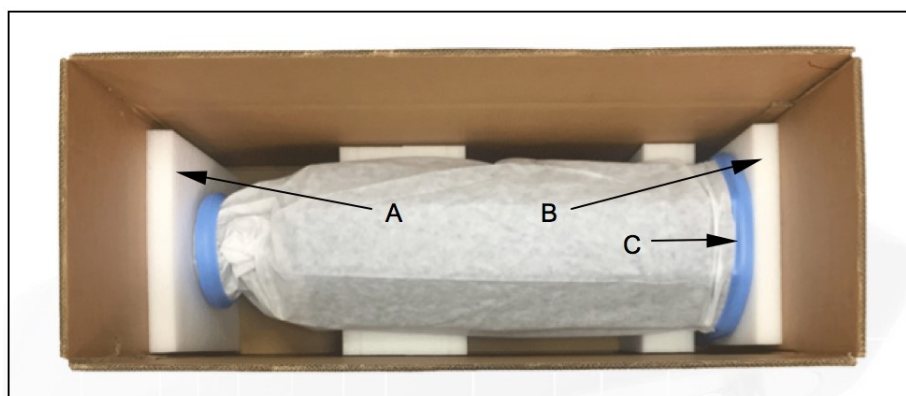

Figure 4. Borderland Mk IV shipping carton
4. Remove the foam packing pieces between the top and bottom of the loudspeaker and the carton – A and B figure 4 – then, with the help of another person, lift the loudspeaker out of the carton by holding it around the top and bottom of the cabinet and stand it up on its base.
5. Remove the blue protective ring from the top of the loudspeaker and pull the white cover up and off. Leave the blue ring on the base of the loudspeaker – C figure 4 – in position for the time being, as this will protect the base of the cabinet while it is being moved.